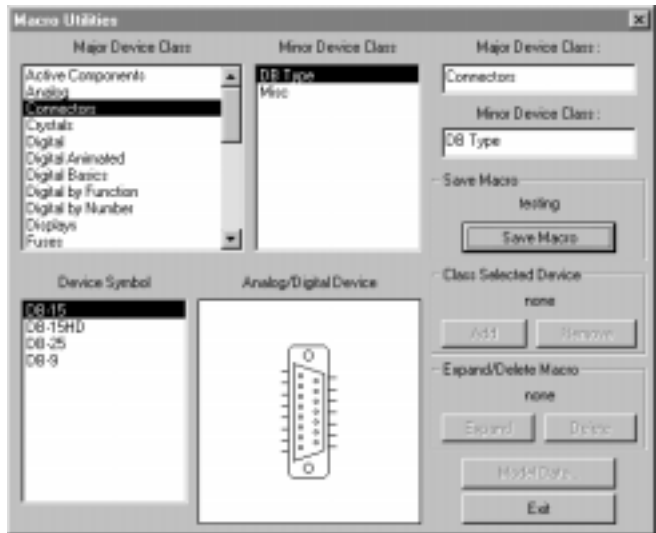

Figure 16.6. You must specify the Major and Minor Device Classes under which your macro will be shown in the Device Selection dialog box.
- 21 If you are satisfied with your macro, choose **Macros > Macro Utilities** to display the Macro Utilities dialog box as pictured in Figure 16.6.